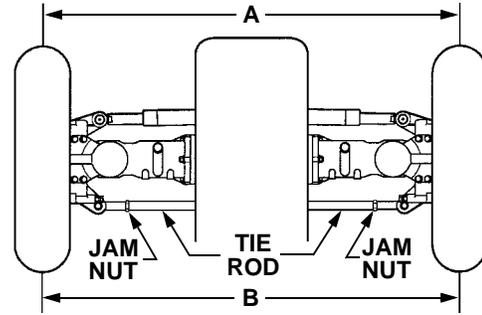

Figure 41
- Measure and record the distance 'A' between the two front marks. Then measure and record the distance 'B' between the two rear marks. See Figure 41.
- Loosen the jam nuts at both ends of the tie rod. Refer to Figure 41.